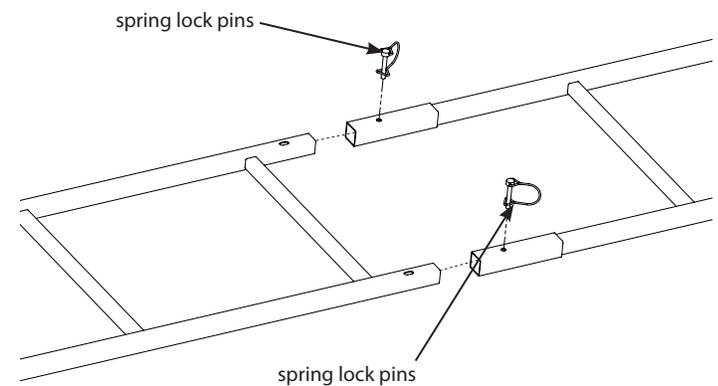
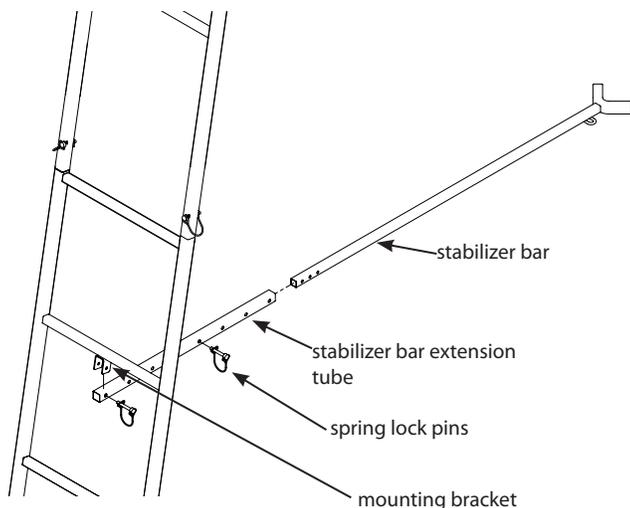

Figure 10
Figure 11
16. With all sections assembled together on ground, secure all sections together using (6) provided spring lock pins. Handle of spring lock pin must be put to the outside of ladder side rails. **SEE FIGURE 10.**
17. Attach the (2) provided 9" and (1) provided 18" camo foam pads to the armrest rails and shooting rail by wrapping around tubing and attaching Velcro together.
18. a. Attach the stabilizer bar extension tube (1ML23) to the second ladder section mounting bracket using (1) provided spring lock pin. **SEE FIGURE 11.**
- b. Slide the stabilizer bar (L17) into the extension tube and attach the two pieces together using (1) provided spring lock pin. Spring lock pin must go through both the extension tube and stabilizer bar at appropriate hole to achieve desired distance from tree. Adjustment in length may be needed when ladder is uprighted later in instructions. **SEE FIGURE 11.**